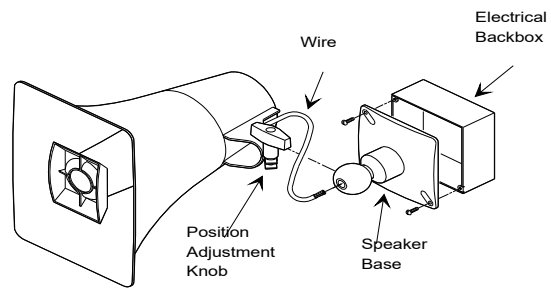

Figure 2 - Mounting to an Electrical Backbox
- Connection to an electrical backbox is accomplished by channeling wire through the ball of the base and making appropriate connections (see Figure 2). The base has holes punched for a double-gang square box, but by punching out additional knockout holes, the base can be mounted to a single-gang or octagon box.